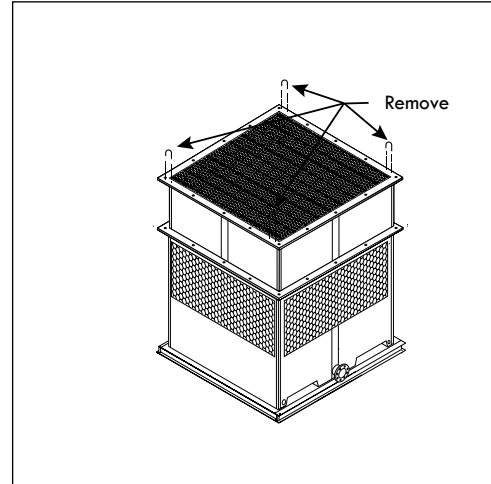

Figure A-9: Removing U-bolts from Lower Body section for a Single Fan Tower (RT-D or RTP-D)
- K. After the Lower Body section has been set in place, remove the U-bolts located on the flange before installing the next section (see Figure A-9).